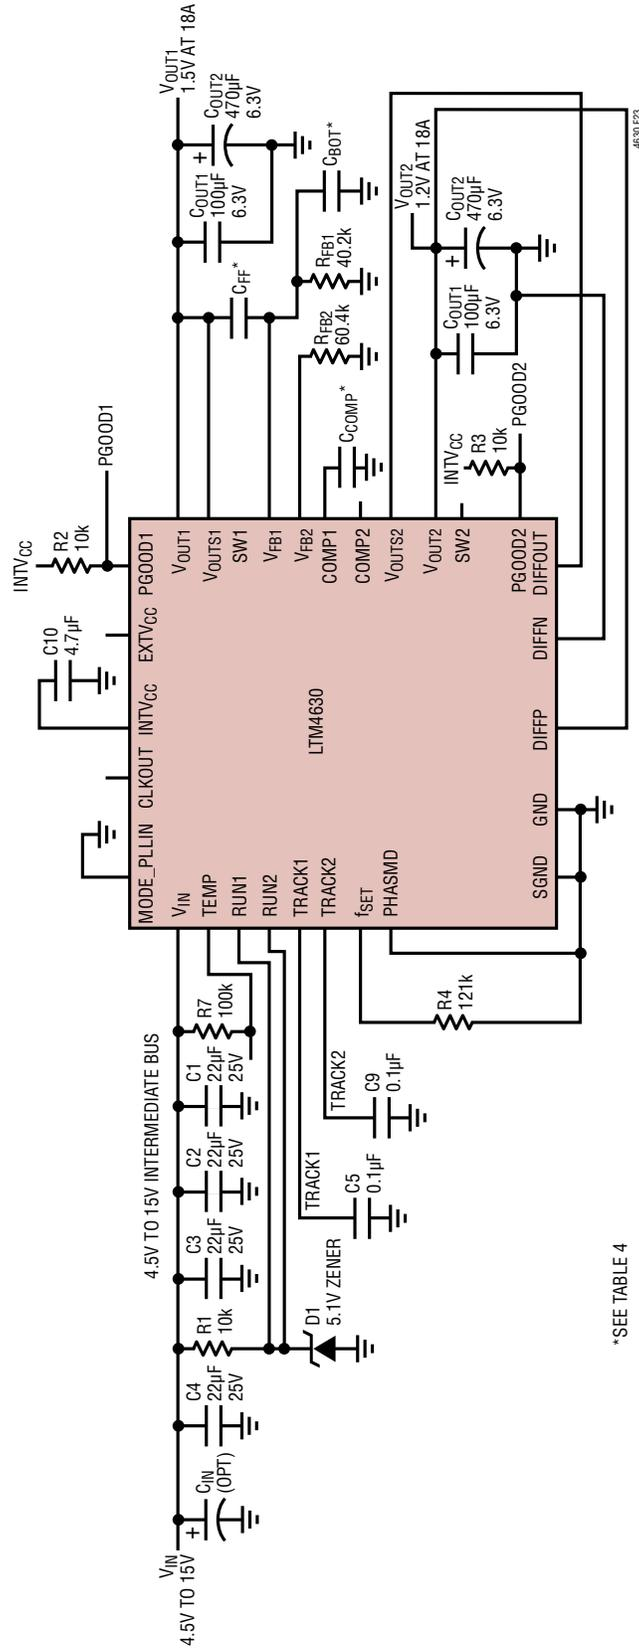

Figure 23. Typical 4.5VIN, 1.5V and 1.2V at 18A Outputs
**Table 4. Output Voltage Response vs Component Matrix (Refer to Figure 23) 0A to 7A Load Step Typical Measured Values**